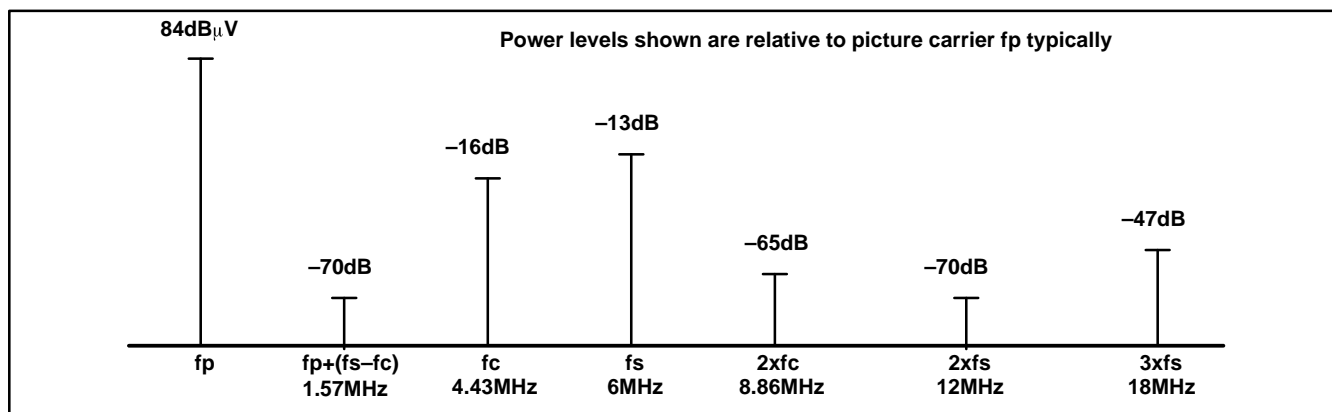
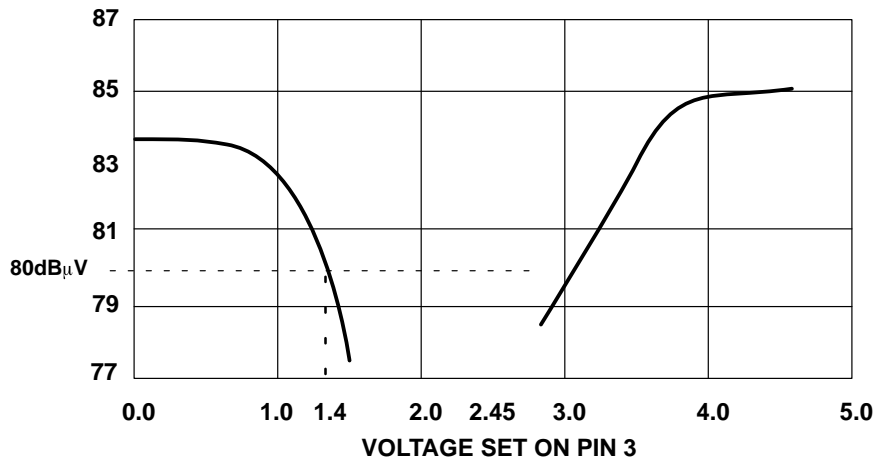

Fig. 3 Frequency spectrum above the Video picture carrier ( $Q_{TANK} = 9$ )
Fig. 4. Picture carrier, unmodulated RF output level
- May be increased by use of external resistor, see Fig. 3
- May be adjusted by use of external resistor dependent on video content, see Fig. 4
Pin 3 (MOD INDEX) is used to control both RF carrier amplitude and video polarity, see Fig. 3. Since the video input is internally AGC'd, varying the carrier amplitude will also adjust the video modulation index, see Fig. 4.
For example, for a negative modulation (PAL or NTSC) with an 80% modulation index, pin 3 should be set to 1.1Volts (see Fig. 4). This voltage corresponds to an unmodulated RF output level of 82dB $\mu$ V, see Fig. 3.
As already stated, great care must be taken with the mod index pin, pin 3. This should be decoupled with chip components as close to the pin as possible. Ideally the mod index should be defined with a DC voltage, thus requiring the use of two external resistors, see Figs 4 and 5. It is also possible to define mod index through the use of a single resistor connected to ground or  $V_{CC}$  depending on whether negative or positive modulation is required.